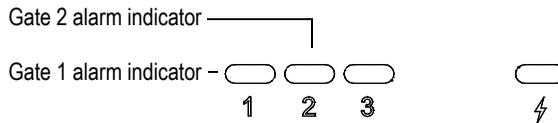

Figure 2-12 Gate 1 and gate 2 alarm indicator lights
- One of two alarm indicators (LEDs) is illuminated on the front panel of the EPOCH 600 (see Figure 2-12 on page 42)